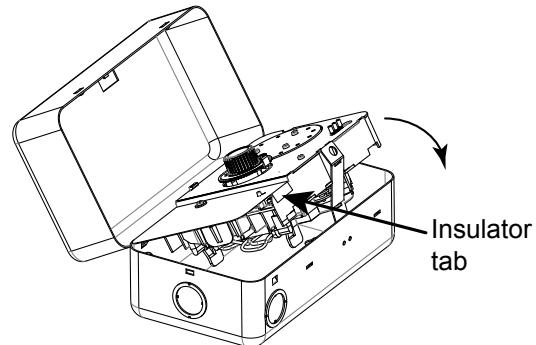
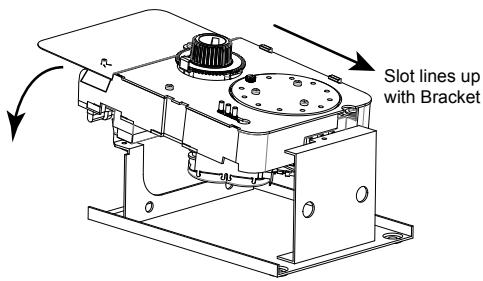

Figure 3. Installing the G8000 Defrost Timer.
Figure 4. Snap Defrost Timer on bracket.
6. Tuck in the insulator tab on the timer and then snap the mechanism in the applicable enclosure. See Figure 3.
6. Tuck in the insulator tab on the timer and then snap the timer on the bracket as shown in Figure 3, or if applicable, the snap timer on bracket in the enclosure as shown in Figures 4 and 5 on the back.